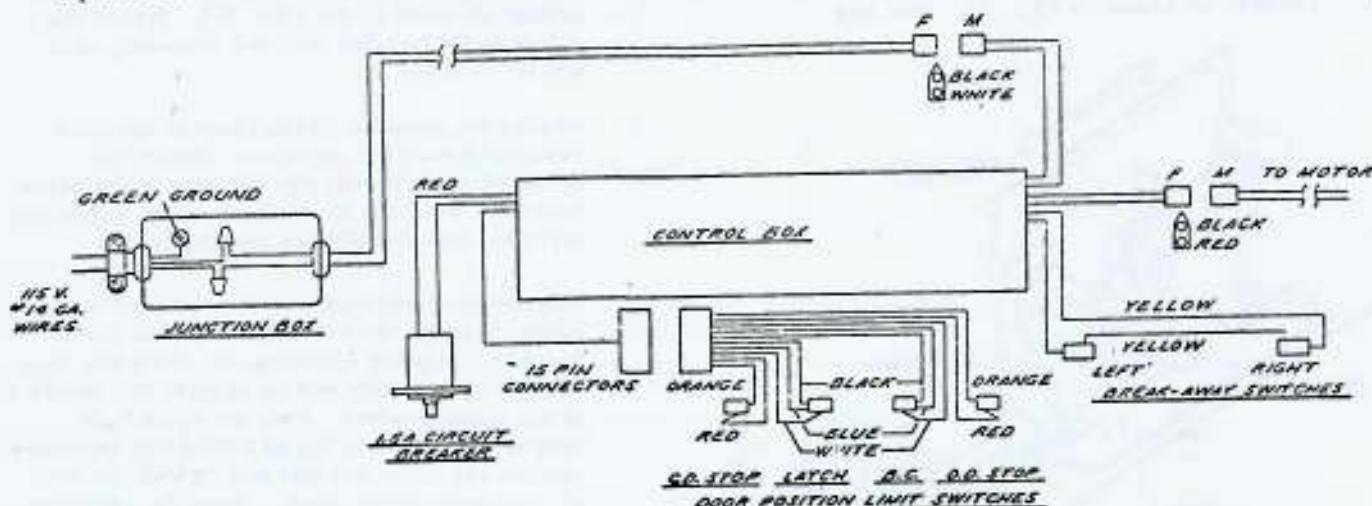

FIG. 27 Electrical connections.
1. Insert a 3-wire metal clad cable through the top hole at the end of the heater (see FIG. 27)
2. Connect the male and female plugs of the wiring harnesses as shown in FIG. 27.